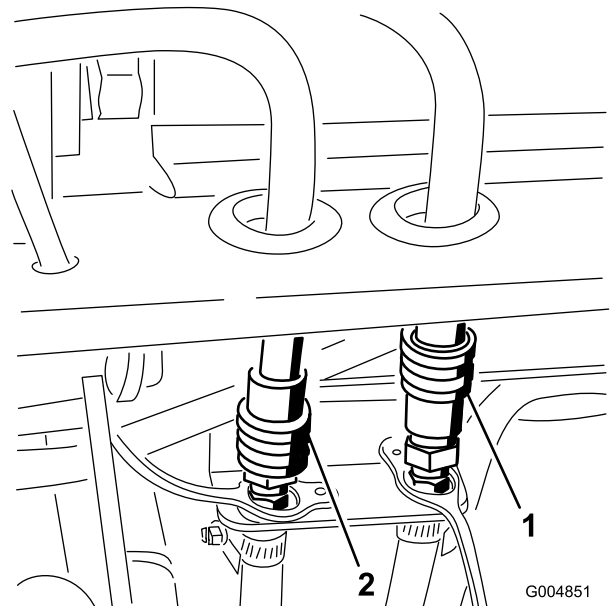

Figure 65
2. Connect the cab pressure and return heater hoses to the quick couplers on the rear frame mount (Figure 65).